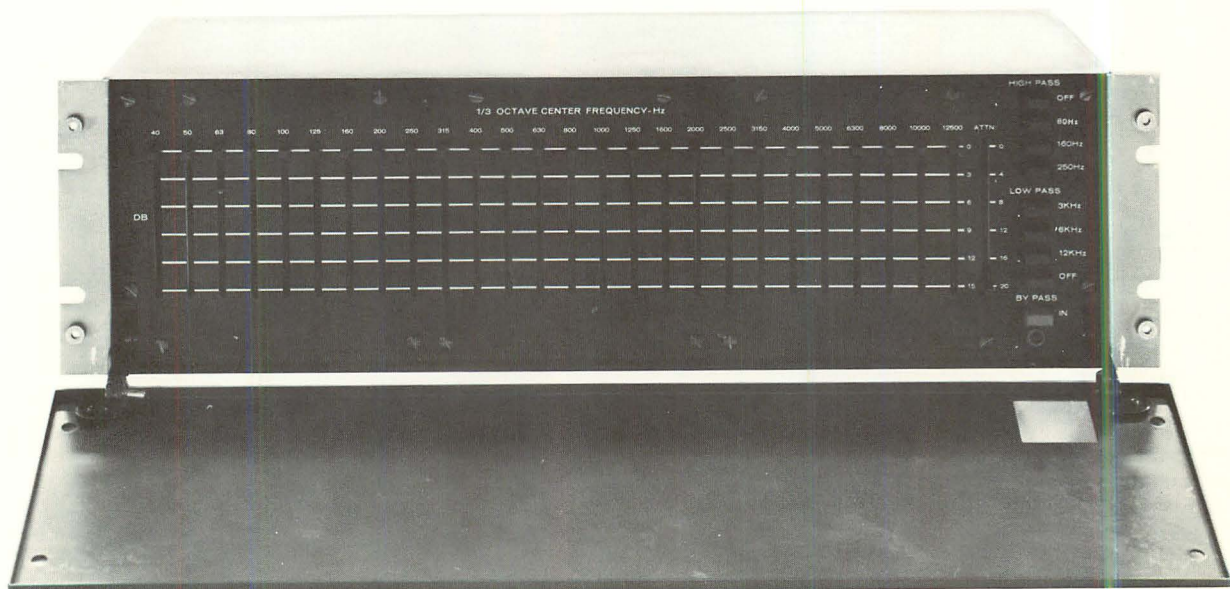

Figure 6. Front View 9860A, Hinged Panel Cover Open
The pilot indicator and all operating controls are on the front panel (see Figure 6). Their functions are described in Table 1. A hinged cover prevents inadvertent control changes. When the hinged cover is secured, only the BYPASS switch and pilot indicator are exposed.
- Step 2. Remove only two screws from each side of control panel, above hinge (see Figure 6), to free control panel assembly from chassis enclosure.